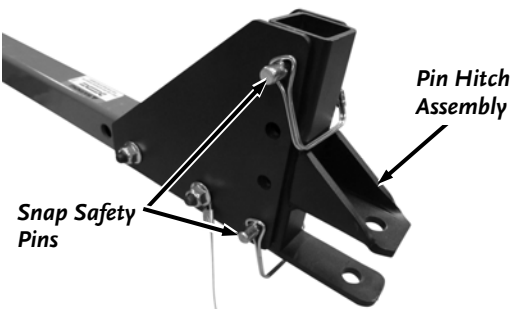

Figure 14
15. Position the Pin Hitch Assembly between the Hitch Adjustment Brackets and secure with two Snap Safety Pins (**Figure 14**).